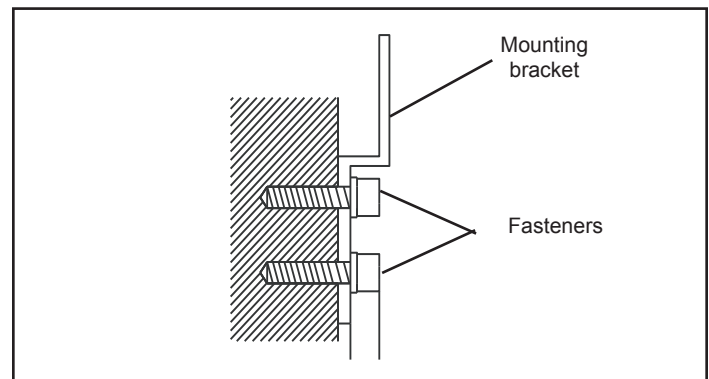

Figure 2. Mounting Brackets
3. Use suitable fasteners to secure the two mounting brackets to the wall. See figures 2 and 3, and the dimension drawings on pages 3, 4 and 5 to ensure proper positioning of the brackets.